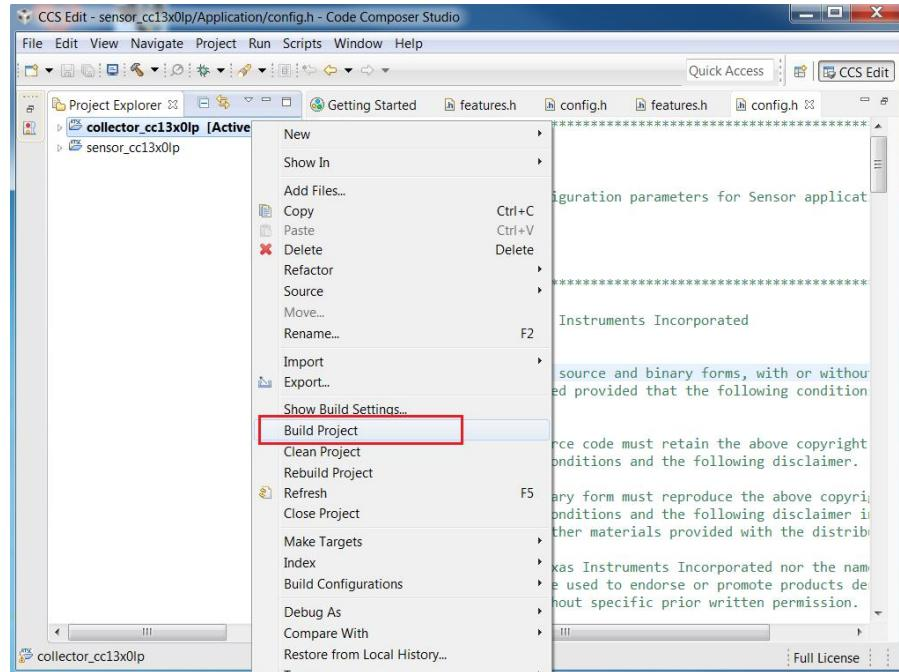

Figure 5. Collector Project
2. Right-click on the collector_cc13x0lp project and select the Build option (see Figure 5). This action should build the collector application project.